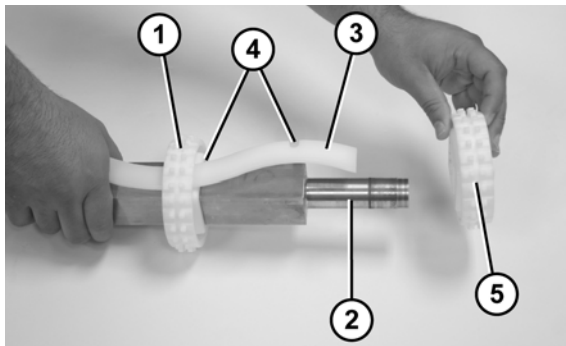

Figure 73
1. Slide the first sprocket (**Figure 73, item 1**) onto the drive spindle (**Figure 73, item 2**).
2. Insert the sprocket alignment bar (**Figure 73, item 3**) into the first sprocket and align the sprocket with the notch (**Figure 73, item 4**) in the sprocket alignment bar.
3. Slide the remaining sprockets (**Figure 73, item 5**) onto drive spindle and align each sprocket with the notches (**Figure 73, item 4**) in the sprocket alignment bar.